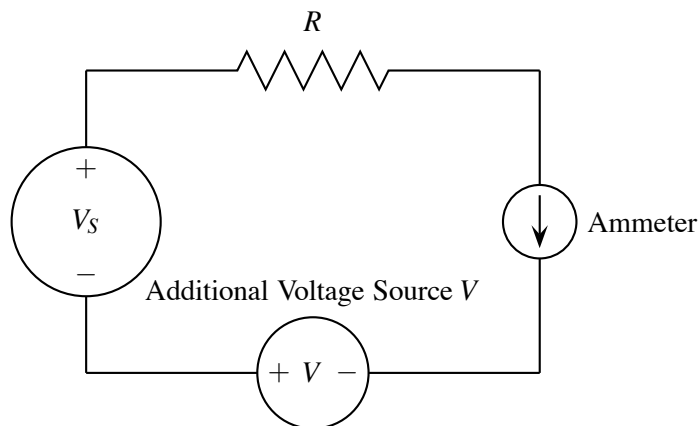

Figure 1.8: Circuit for Section 1.4.2
- The value of the quarter watt resistor in Figure 1.8 below is unknown. Construct the circuit and use the laboratory equipment to find this value. Complete Table 1.4 and record the current value measured on the ammeter.